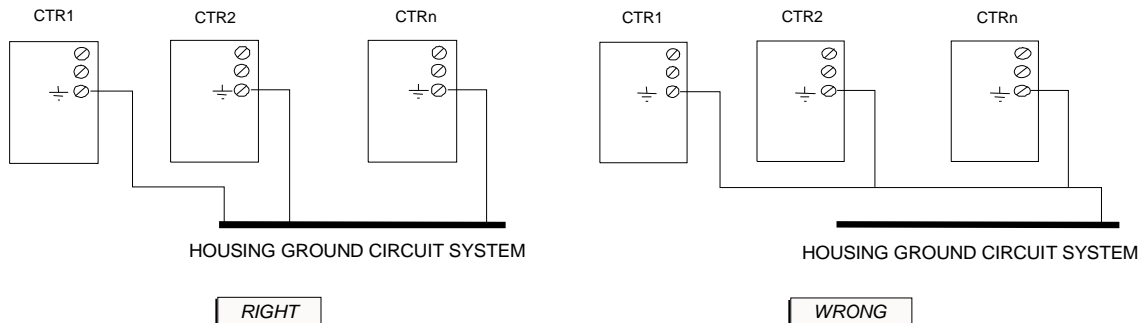

Fig. 9.2 - Housing Ground Connection
- Housing ground bar: is the one where the plant ground is done. The housing ground of every **CD600** (see fig. 6.3 - page 6.3) should be connected to this bar (see fig. 9.2).